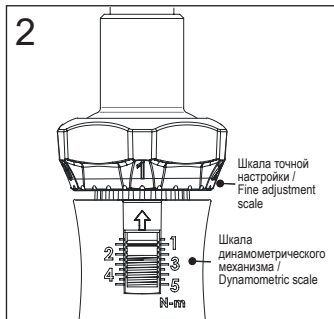

Рисунок 2 / Figure 2
Set an integer value from the desired torque on the scale of the dynamometric mechanism (3) and a value after the decimal point on the fine adjustment scale on the fixing nut (2). On the scale of the fixing nut (2) there are marks in increments of 0,02 N·m (Figure 2).